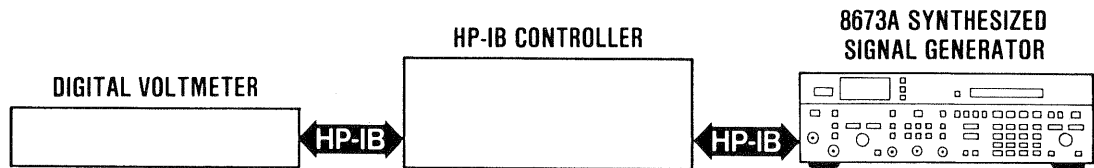

Figure 5-21. SRD Bias Adjustment Test Setup
1. Connect the Signal Generator and voltmeter to the controller via the HP Interface Bus as shown in Figure 5-21.